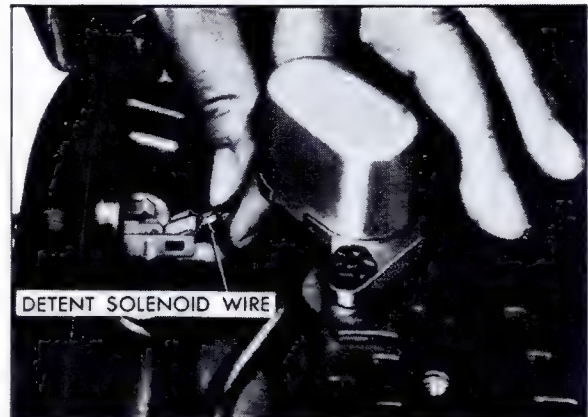

Fig. 7-49 Removing Detent Solenoid Wire
1. Disconnect detent solenoid lead from case connector terminal, Fig. 7-49.